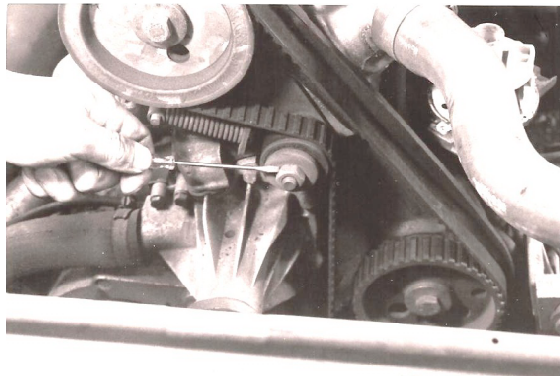

Figure 18. The 17-mm nut on the belt tensioner.
11. Loosen the 17-mm nut holding the belt tensioner spring (**Figure 18**). Do not remove.